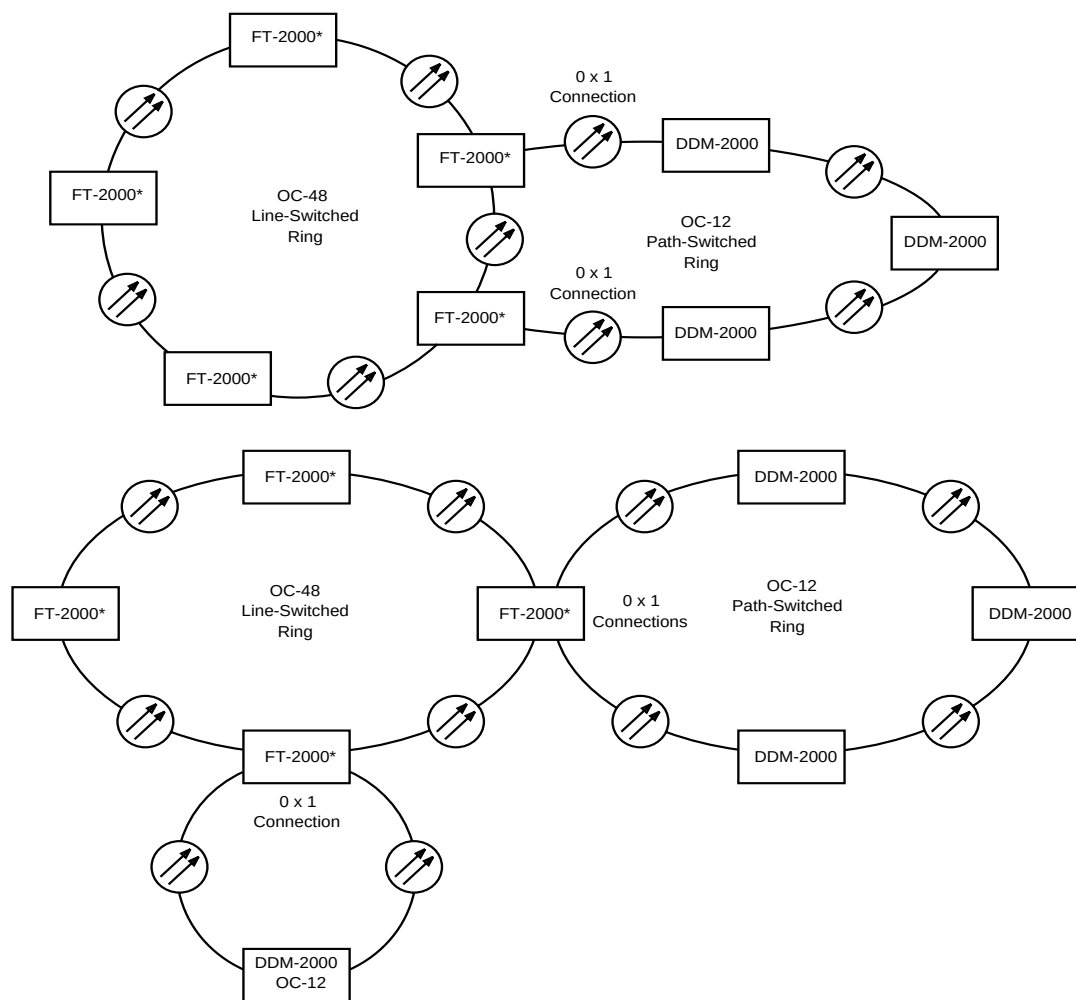

Figure 2-17. OC-12 Ring Interfaces with FT-2000 OC-48 Lightwave System
Operations interworking (OI) provides the capability to access, operate, provision, and administer remote Lucent SONET NEs from any location in a SONET subnetwork or from a centralized OS. Figure 2-17 shows an example of OI applications of an OC-12 ring interface between FT-2000 OC-48 Lightwave System and OC-12 ring systems. Refer to 824-102-144, *Lucent Technologies 2000 Product Family Multi-Vendor Operations Interworking Guide*, for more information.